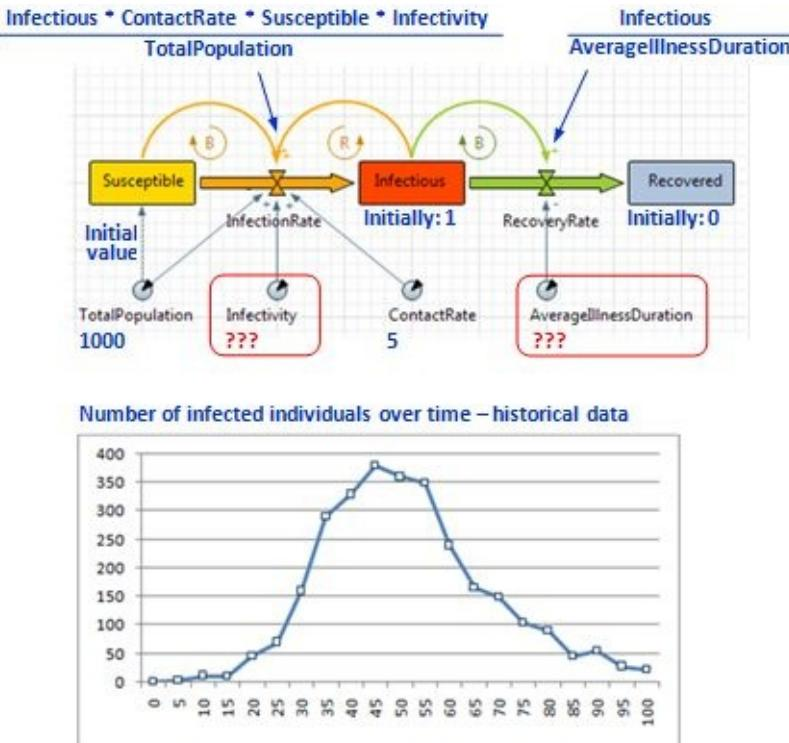

Figure 5.27 The SIR epidemic model and the historical data
9. In the **Criteria** table, fill in one row, as shown in Figure 5.27. Click **Finish**.